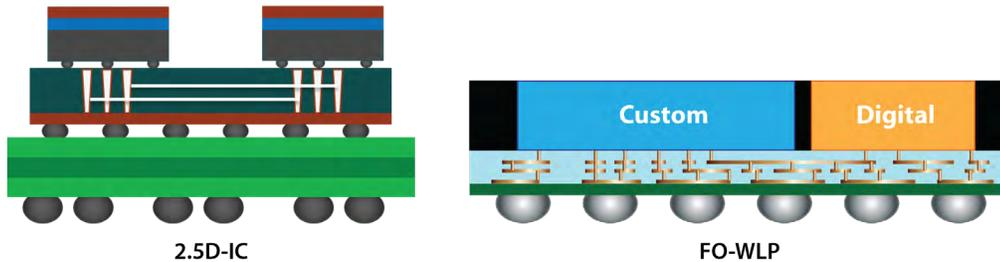

Figure 1: The most common package styles currently in use are the 2.5D-IC and the FO-WLP.
Contrary to what you might think, advanced integrated circuit (IC) packaging is real. Several leading foundries and outsourced assembly and test (OSAT) companies already offer high density advanced packaging (HDAP) services to their customers. The most common approaches currently offered by foundries/OSATs are the 2.5D-IC (interposer-based) style and fan-out wafer-level packaging (FO-WLP) approach (single die or multi die), as shown in Figure 1.